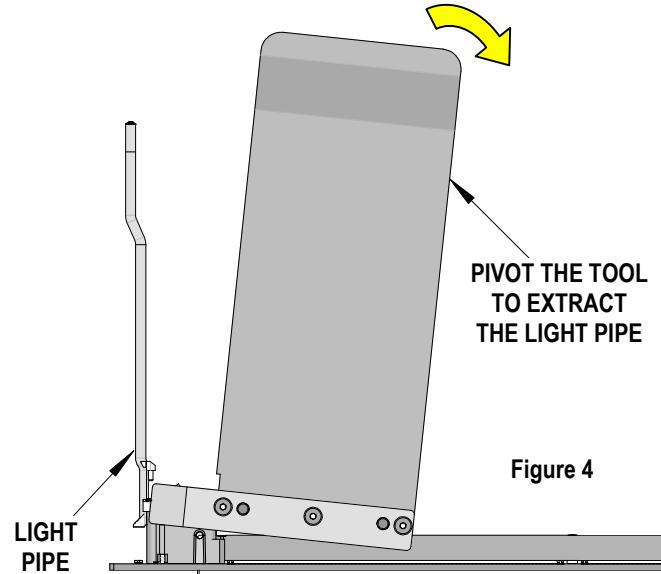

Figure 4
5. With the tool in position as shown in Figure 4, pivot the tool to lift the light pipe from the memory socket. When the light pipe is freed from the socket latches, the tool can be removed and the light pipe can be lifted out by hand.